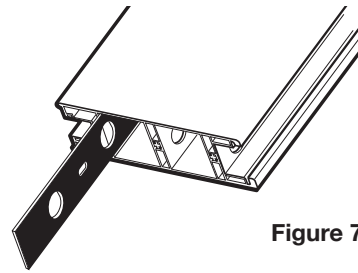

Figure 7
Insert one of the Reinforcement plates (B) into the bottom of the Stile into the innermost chamber of the Stile. See Figure 7.